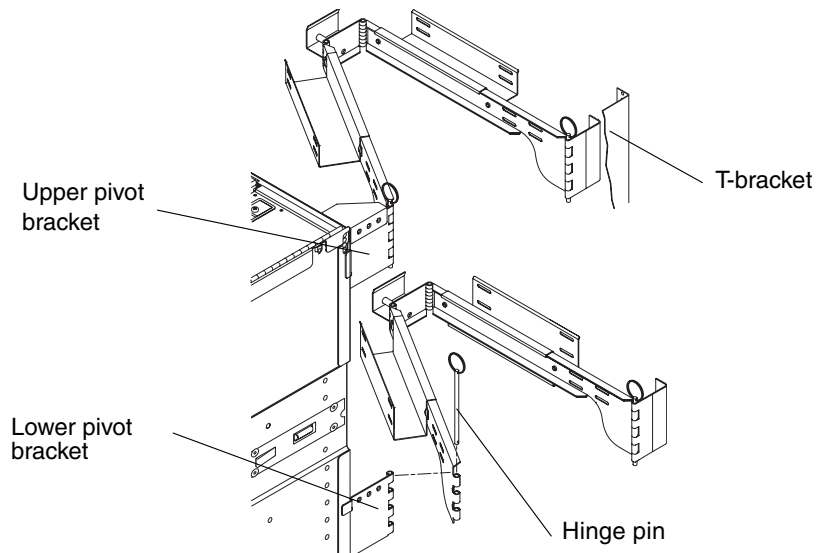

FIGURE 5-3 CMA-800
2. Remove the hinge pin to the lower pivot bracket of the power cable arm (FIGURE 5-3).
3. Loosen the two captive screws that secure the power cable arm to the bottom of the left T-bracket (FIGURE 5-3).
4. Loosen the two captive screws that secure the I/O cable arm to the top of the left T-bracket (FIGURE 5-3).
1. Remove the hinge pin to the upper pivot bracket of the I/O cable arm (FIGURE 5-3).
2. Remove the hinge pin from the lower pivot bracket of the power cable arm (FIGURE 5-3).